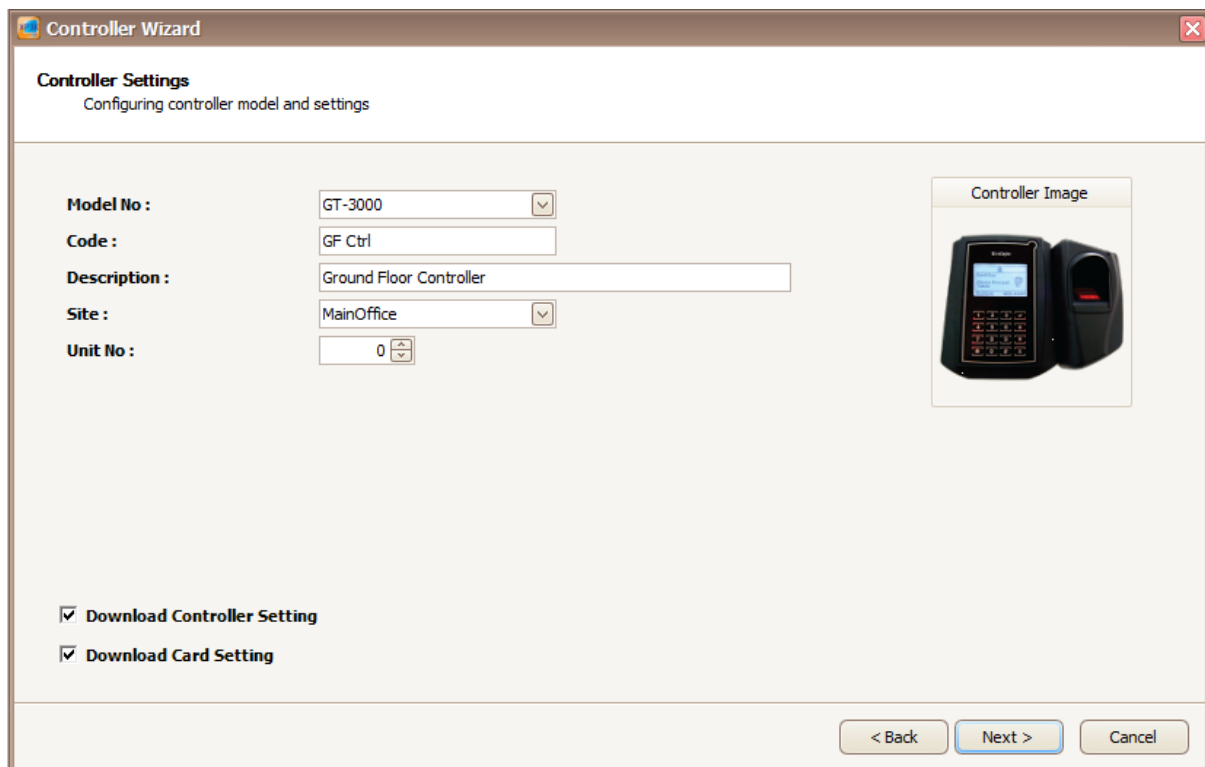

Figure 36 - Controller Settings
- The following window will be shown (Refer **Figure 36**).